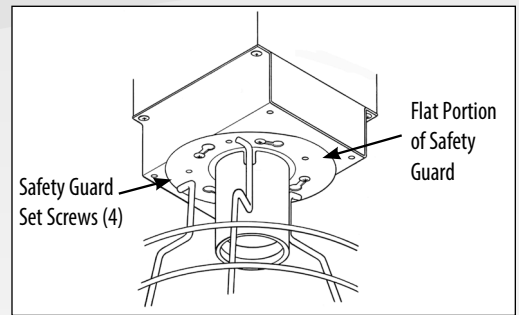

Figure 2. Installing the Lamp Safety Guard.
1. Place the luminaire on its side with the Access Cover on top. See Figure 2. Locate the four (4) set screws around the upper base of the lamp socket. Hold the bottom of the Safety Guard (the larger end) and align the top flat portion of the Safety Guard over the four set screws and rotate clockwise. Tighten each set screw until the Safety Guard is firmly attached to the luminaire.